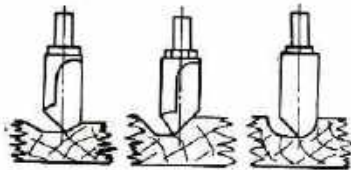

Fig. 727. DIFFERENT SHAPE GROOVE CUTTERS
- Fig.727 Different Shape Groove Cutters